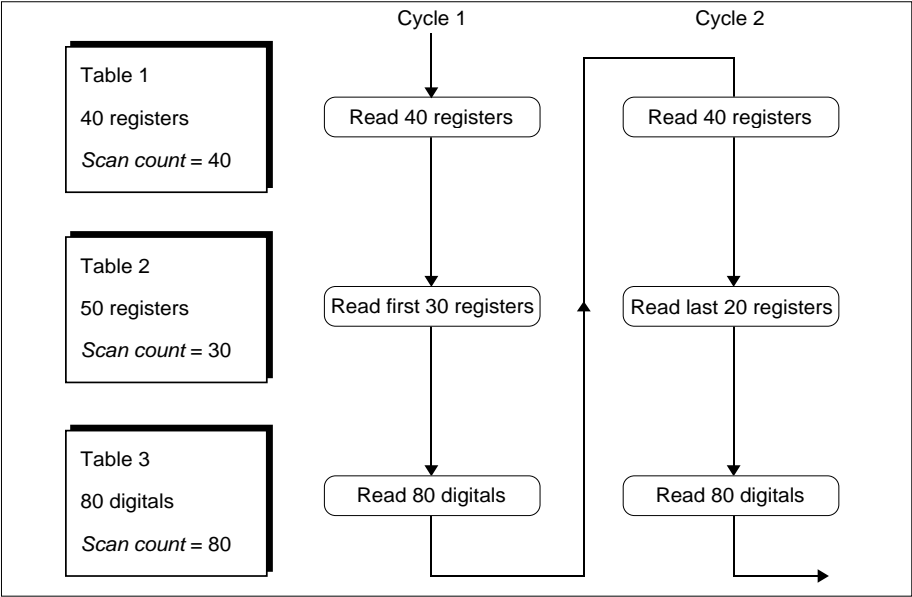

Figure B-4 Polling sequence (example)
Figure B-4 illustrates two cycles of an example polling sequence. For Table 2, the number of registers it contains (50) exceeds its maximum register count (30), so it takes two polling cycles to be fully updated.
If the scan task has detected that a value in one of the MODBUS slaves needs to be updated, it requests the polling task to write the new value across the MODBUS network. The polling task is allowed to insert a maximum of *one* such write operation between consecutive read operations. So in the example of Figure B-4, up to three writes could be made per polling cycle.